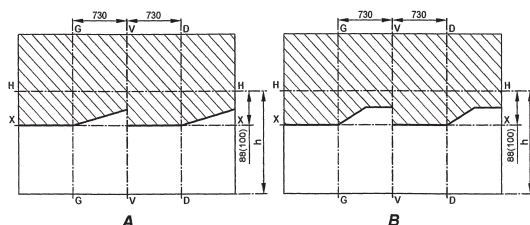

Fig. 8.5. **Screen Layout for Headlamps Adjustment:**
- place the unladen vehicle on a level ground at 5 m distance from the screen (Fig. 8.5);